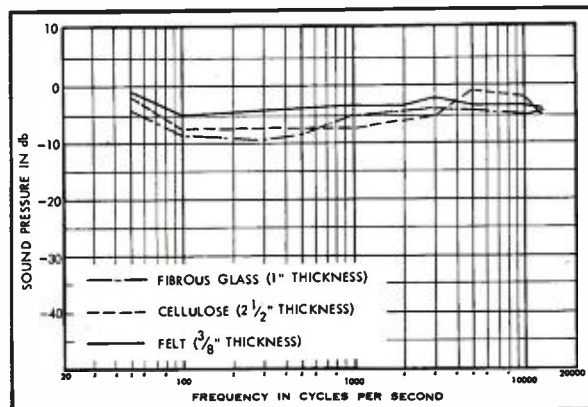

Fig. 6. Curves showing relative acoustic output from the three enclosures.
Figure 6 shows the results of the Speaker Output Tests. The output of the speaker, measured in decibels, is plotted vs. frequency for felt, and the three materials.
The results from these tests would indicate that the use of felt should accomplish two things with regard to the sound output from the speaker: (1), the speaker output in the low and middle frequencies should be higher, and (2), speaker output should be smoother. This is actually what happened as an examination of the curves of Fig. 6 will show. These curves were plotted for specific frequencies, 50, 100, 300, 500, 1000, 3000, 5000, 10,000, and 15,000 cps.